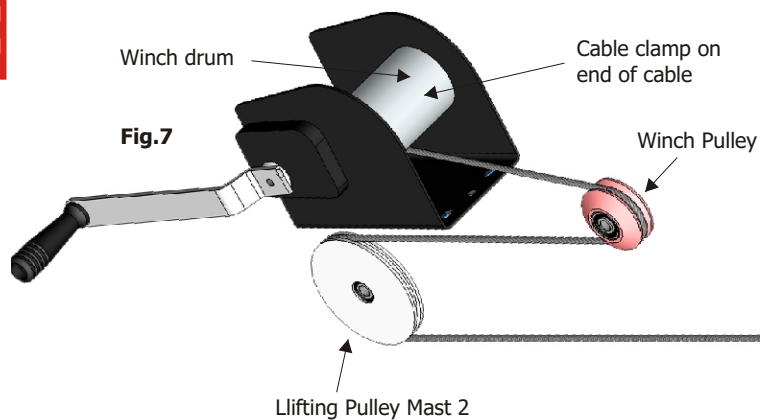

Fig.7
10. Replace and feed the new cable as shown in Fig.7